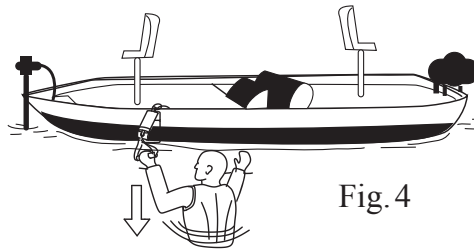

Fig. 4
1. Grasp the PULL LOOP at the bottom of the REFLECTIVE POUCH and pull downward. The closure at the bottom of the pouch will open, releasing the “STEPS” and the “HANDLE”. The “STEPS” and “HANDLE” float, making them visible and easy to access. (See FIG. 4)